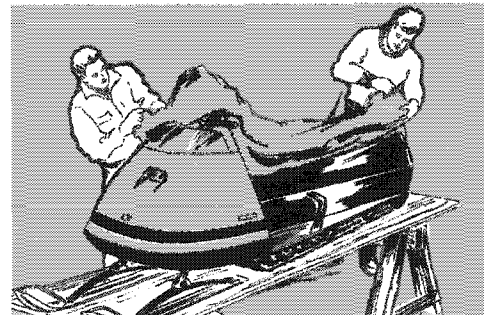

Fig. 33
5. Fully charge battery and store in a cool, dry place. (See Fig. 33).